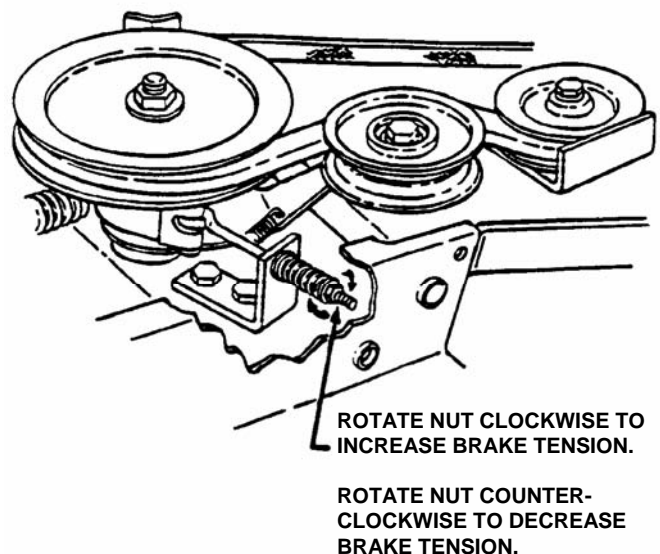

FIGURE 4.2
3. If dimension is greater than 3-1/4", rotate nut clockwise to increase brake tension. If dimension is less than 3", rotate nut counter-clockwise to decrease brake tension. See Figure 4.2.